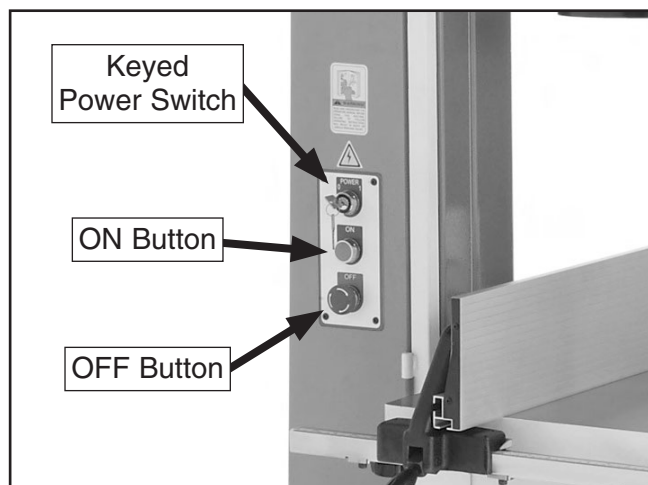

Figure 4. Control panel.
2. Verify that the machine is operating correctly by inserting the key into the power switch and turning it to "1". Now start the bandsaw by pressing the ON button. (see **Figure 4**)
6. Turn the switch disabling key to "0", as shown in **Figure 4**.